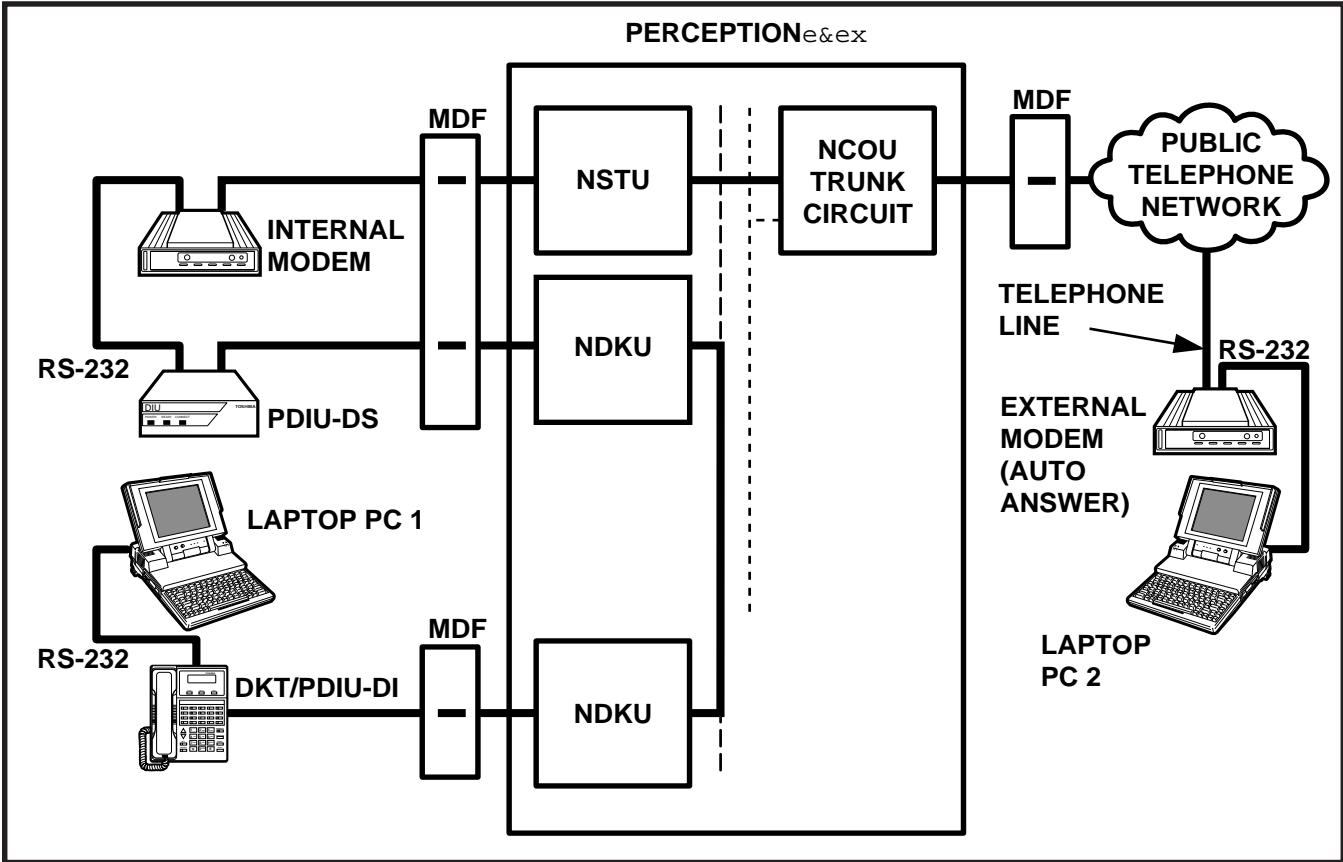

FIGURE 4-64—INTERNAL PC TO EXTERNAL PC TEST CALL USING AT COMMANDS
- Figure 4-64—Internal PC to External PC Test Call Using AT Commands